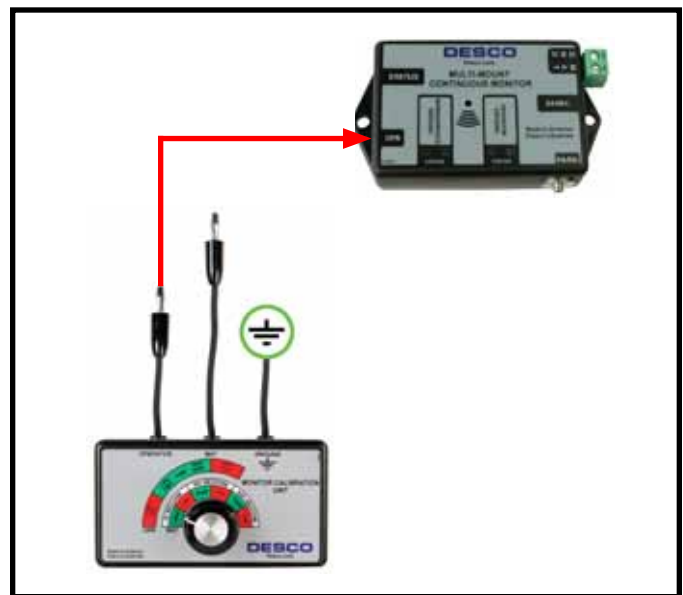

Figure 8. Connecting the OPERATOR test lead from the Monitor Calibration Unit to the Multi-Mount Continuous Monitor
Step 2: Insert the Calibration Unit’s banana plug labeled “OPERATOR” into the jack labeled “OPR” on the Multi-Mount Continuous Monitor (see Figure 8).